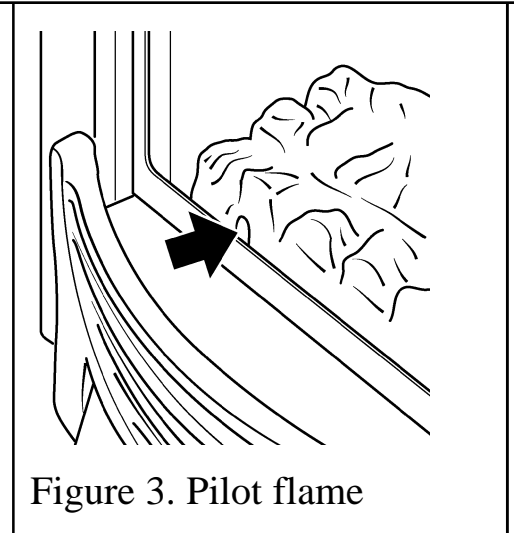

Figure 3. Pilot flame
- Push in the right control knob (the pilot lighting knob) and, while keeping it depressed, turn anticlockwise through the ignition position marked  and up to the pilot position marked . The spark should light the pilot. The pilot flame can be seen by looking through the gap near the left side of the coal front (See figure 3).